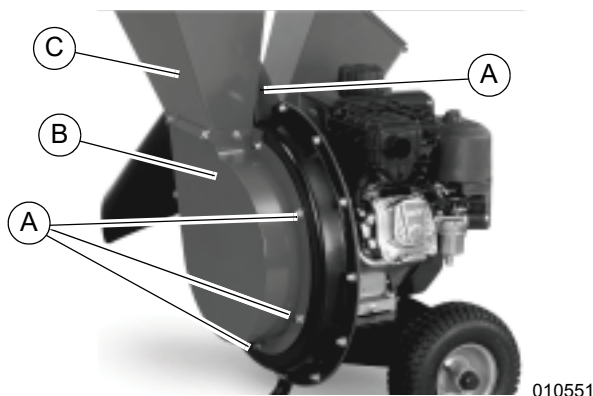

Figure 4-4. Replacing Chipper Knife (1 of 4)
1. See Figure 4-4. Use a 1/2" wrench to remove the nine locknuts (A) securing hammermill housing (B) and shredder hopper assembly (C) to the unit.